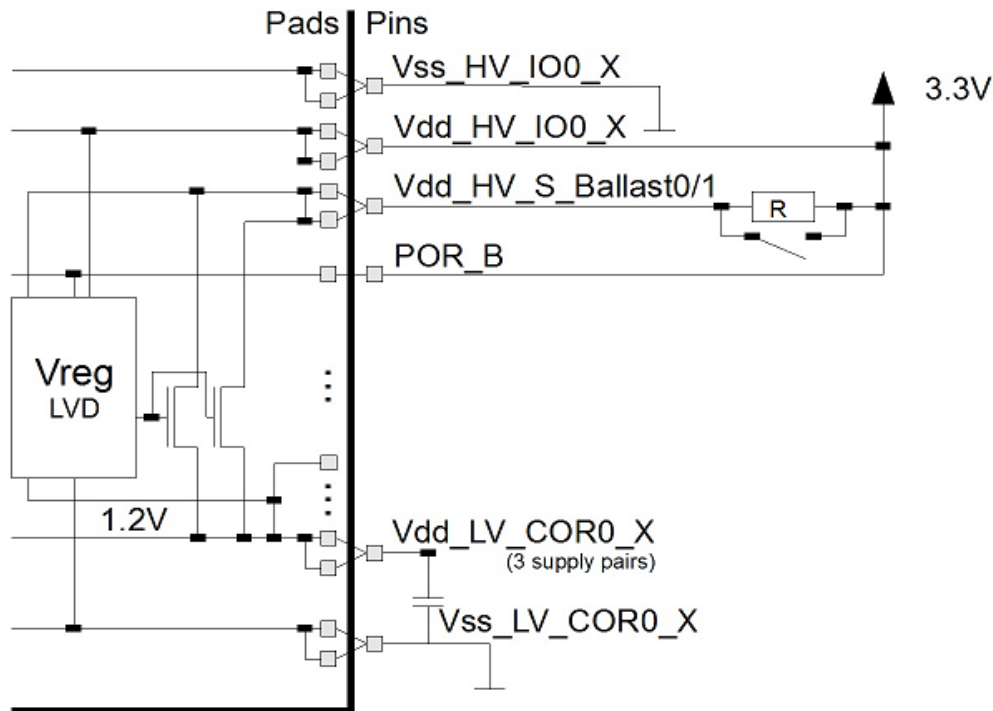

Figure 6. Internal Regulation Mode
- $V_{DD_LV_COR}$ (1.2V) — This is the core logic supply. In the internal regulation mode, the core supply is derived from the main supply via an on-chip linear regulator driving an internal PMOS ballast transistor. The PMOS ballast transistors are located in the pad ring and their source connectors are directly bonded to a dedicated pin. See Figure 6.